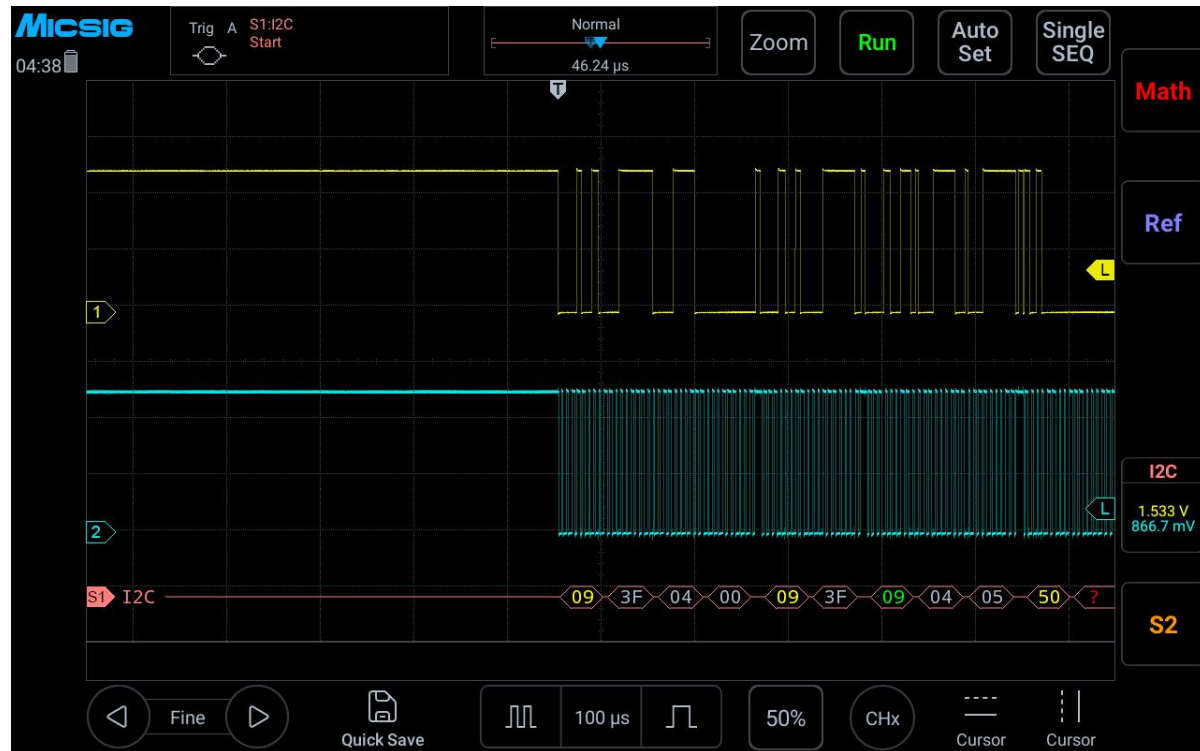

Figure 12-24 I²C Graphic Interface
- (1) Tap S1 to open the decode channel, and click S1 again to open the bus configuration menu;
- (2) Select the bus type as “I2C”, open the bus setting menu, and select the clock SCL as Ch2 channel;
- (3) Open the trigger mode configuration menu and click “Start Condition” on the touch screen.
- (4) Set the threshold level of two channels according to signal amplitude; I2C trigger graphic interface is shown in Figure 12-24: